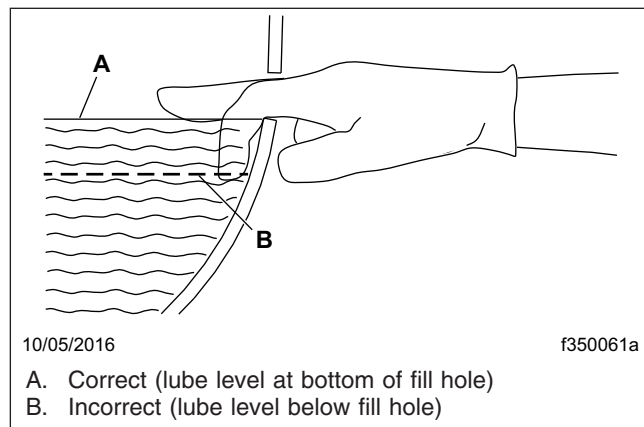

Fig. 2, Axle Lubricant Level Inspection
- 5.1 Fill the axle through the oil fill hole. Lubricant should be level with the bottom of the oil fill hole. To check fluid level, see Fig. 2.